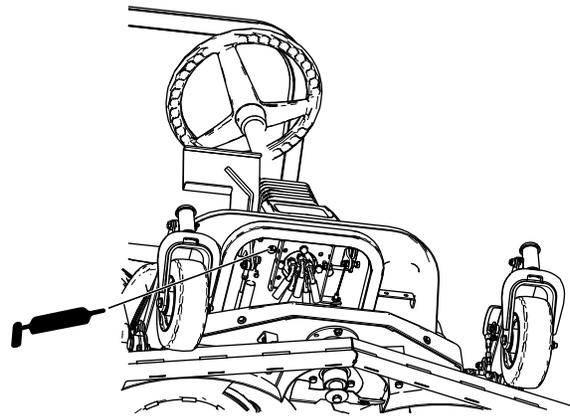

Figure 39
- Traction pedal pivot bushing (Figure 39)